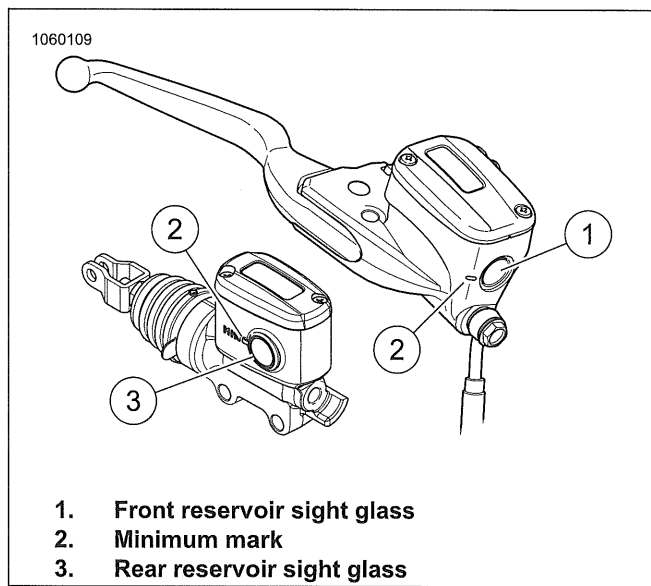

Figure 2-20. Brake Fluid Reservoirs
- See Figure 2-20. View reservoir sight glass.